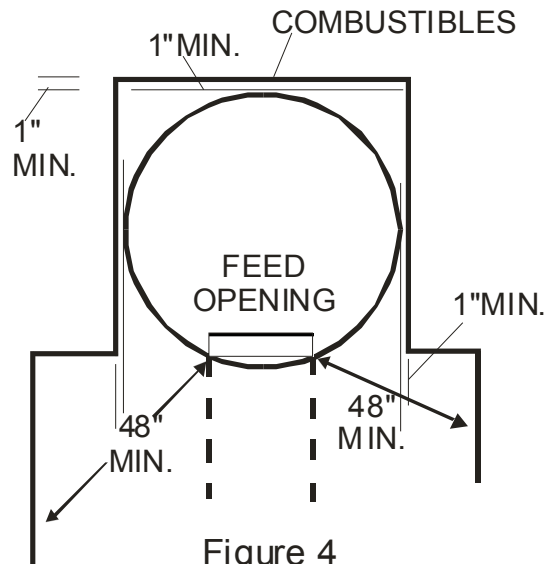

Figure 4
3. Check that there is a minimum clearance of 1 inch to any adjacent sidewall construction containing combustibles. Any adjacent combustible sidewalls which projects beyond the front of the oven opening must be a minimum of 48 inches, measured from the side of the oven opening closest to the wall to the surface of the wall. (Refer to Fig. 4, pg. 4). If the distance is less than 48 inches a wall shield must be mounted on the wall. Refer to the U.L. listed wall shield installation instructions for the allowable clearance reduction.